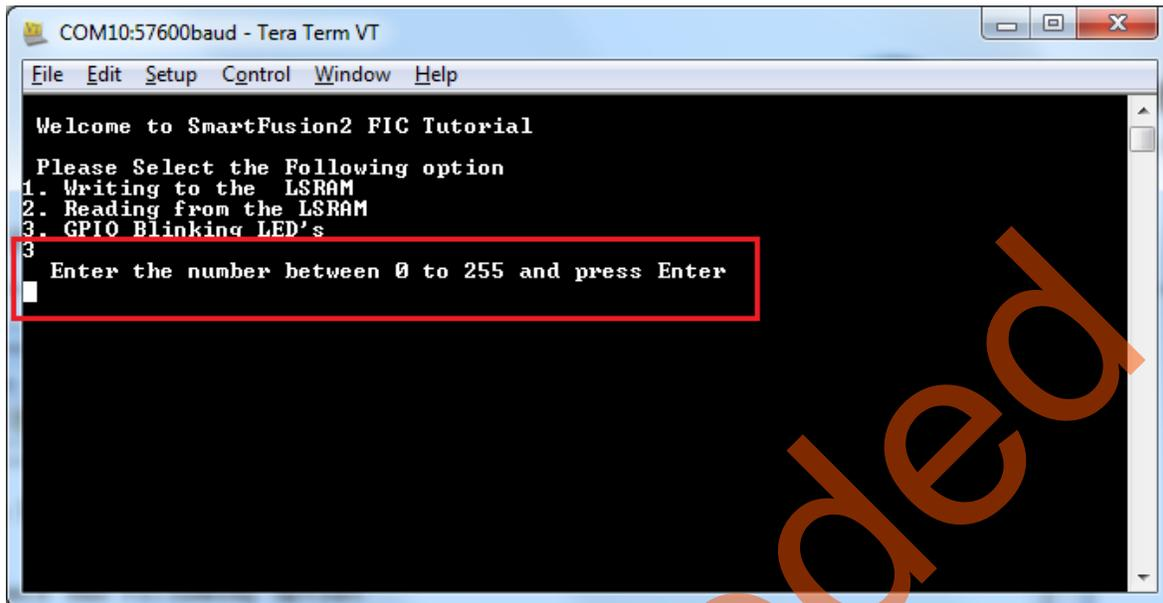

Figure 56 • Selecting GPIO LED Blinking
12. Select GPIO LED Blinking, it Prompts for “Enter the number between 0 to 255 and press Enter” as shown in Figure 56.